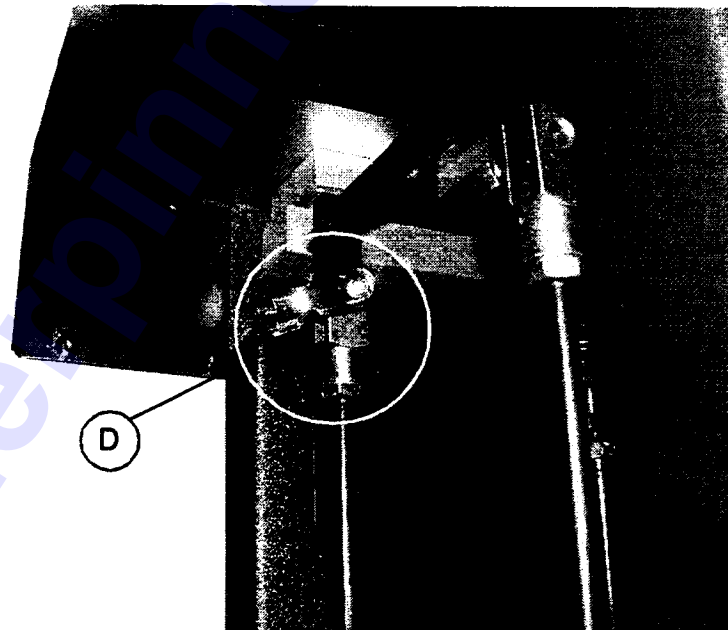

Figure 2
3. Unhook the locks (detail "D" of figure 2) by turning them clockwise